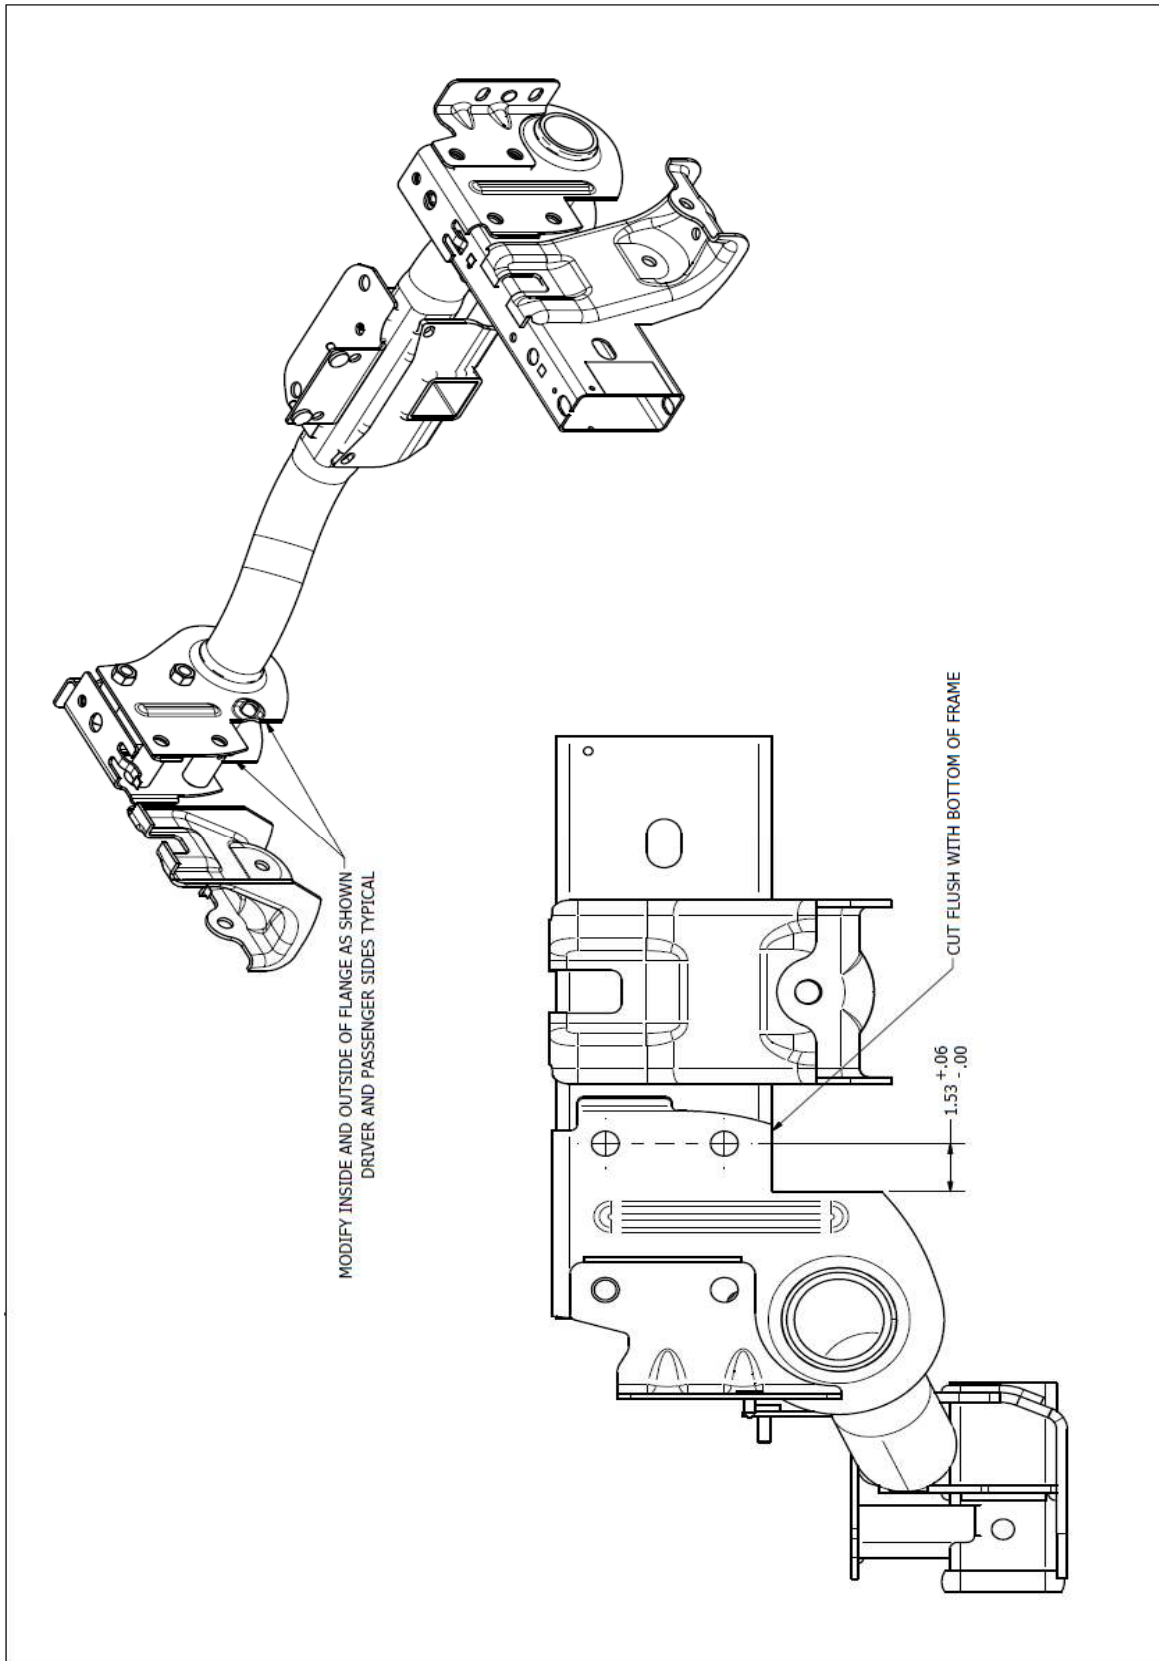

Figure 1: 3500 LB
5. Modify the tow hitch mounting brackets as shown. (Figure 1)